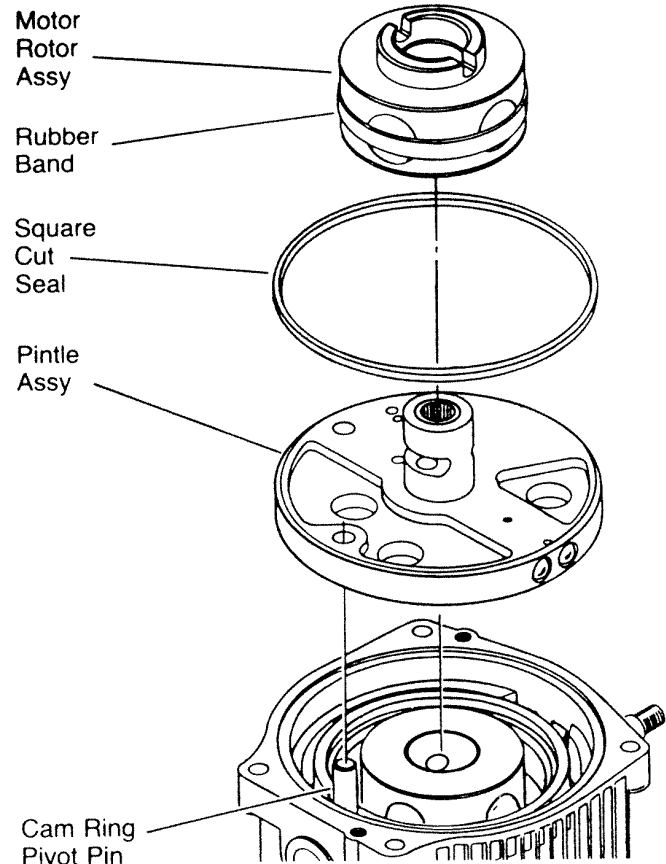

Fig. 57
**106** Install the motor rotor assembly on the pintle. See Figure 57.